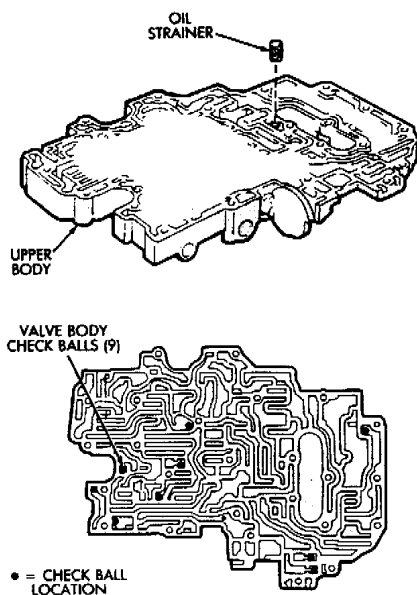

Fig. 2 Check Ball And Strainer Location
(2) Remove strainer and nine check balls (Fig. 2). Note check ball and strainer position for assembly reference.